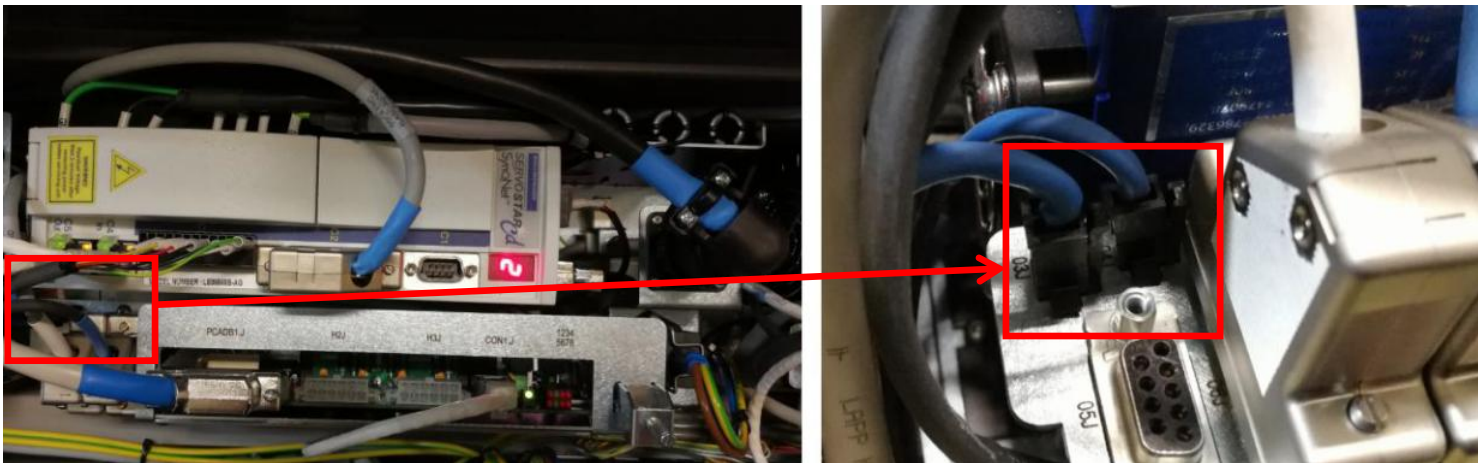

Figure 6
9. Disconnect 2 x Connector (24VDC & 5 VDC) from 03J & 04J as Figure 6.